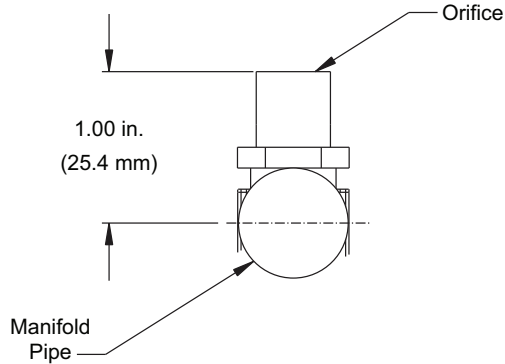

Fig. 55 — Orifice Projection
Refer to Fig. 55 for maximum projection dimension for orifice face to manifold tube.
5. If factory orifice has been removed, check that each orifice is tight at its threads into the manifold pipe and that orifice projection does not exceed maximum value. (See Fig. 55.)